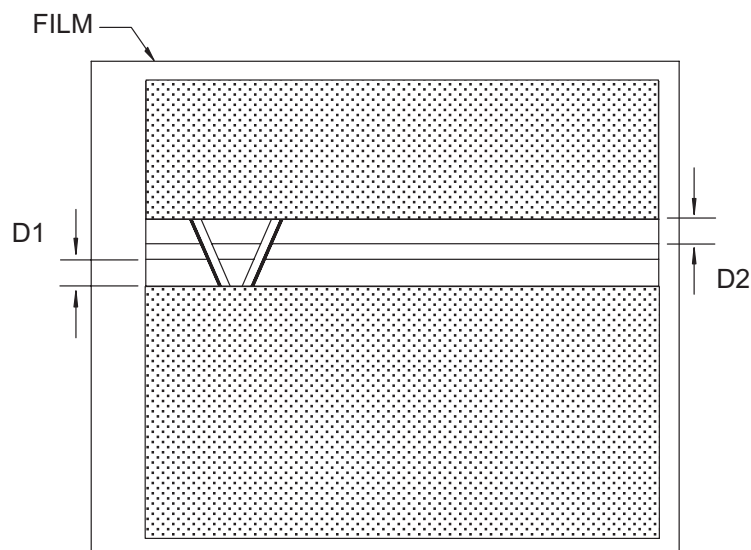

FIGURE 69 EXPOSED FILM
17. Measure the distance from the front edge (see Figure 69) of the narrow, darker band to the front edge of the wide, lighter band (referred to as distance D1).
20. Multiply the distance between band centers (D) by 0.417 to determine the distance the X-ray tube must move. Refer to the table below Figure 69) to determine which way to rotate the alignment screw.